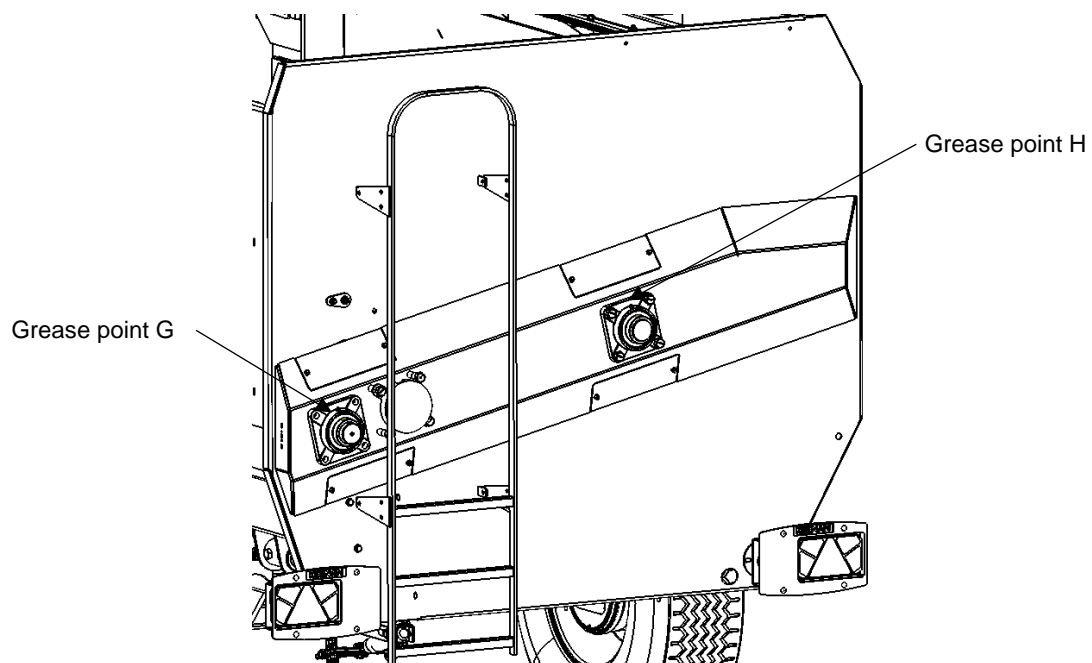

Figure 10b: Rear grease points
- e. Two main bearings at the rear of the KEENAN MechFiber (G and H, Figure 10b).